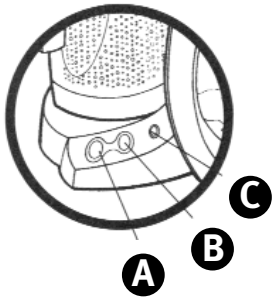

FIGURE 4
**THE CONTROL PANEL:** This is the interactive information center of your Water Treatment System. (FIGURE 4)